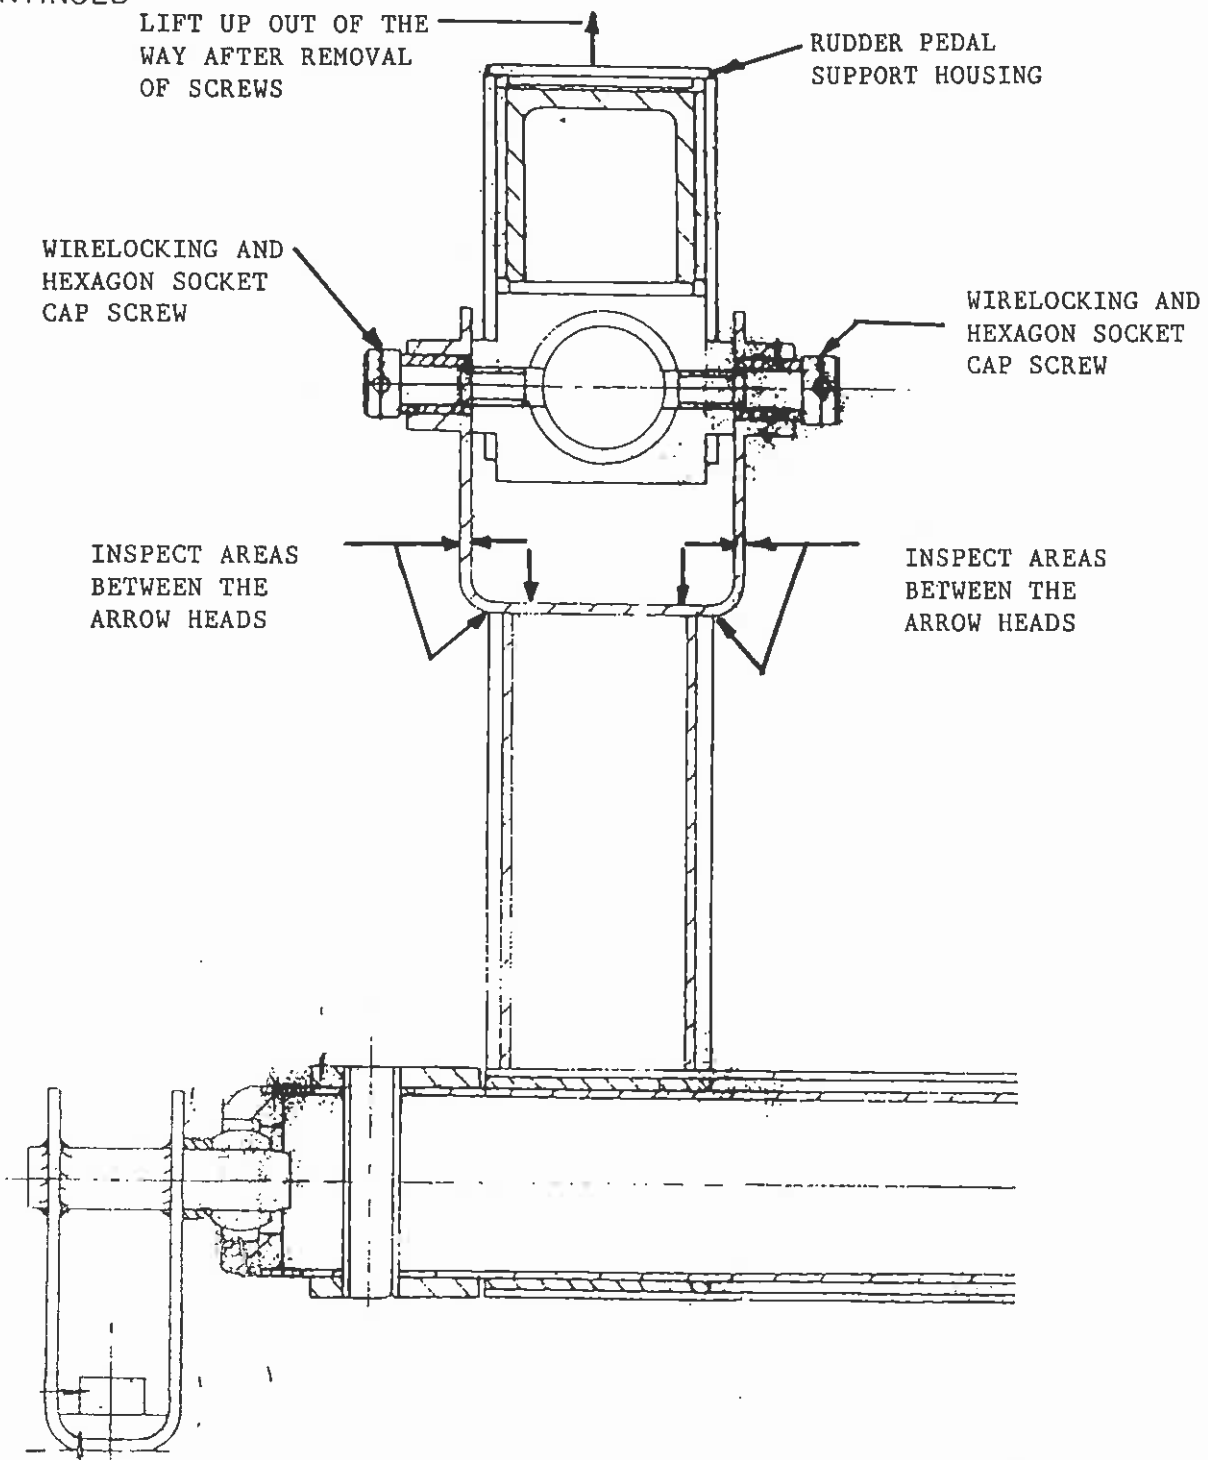

FIG 1: SECTION THROUGH PART OF RUDDER BAR ASSY. (TYP 4 POSNS)
- (ii) Remove the locking wire from the 2 (off) hexagon socket cap screws retaining the aft end of each rudder pedal support housing. See Fig. 1. Remove the screws.
- (iv) Remove the protective treatment from the area of the lug lower radii shown in Fig. 1.